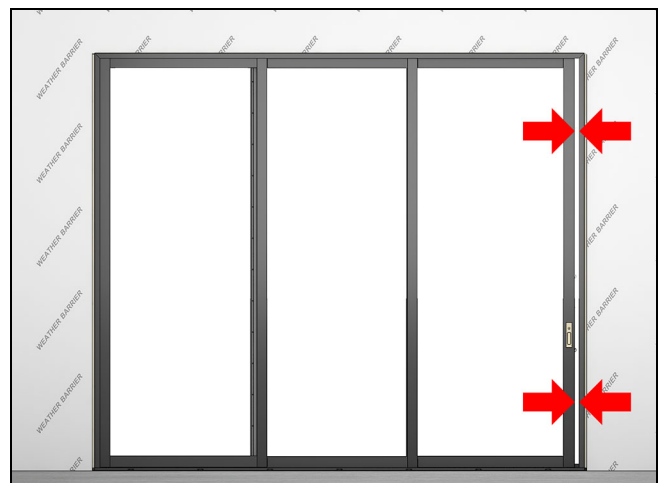

Figure 93
6. Recheck for an even reveal and repeat the previous steps if necessary. See Figure 93.